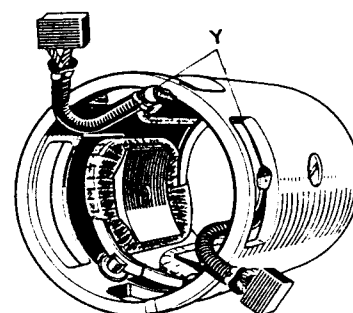
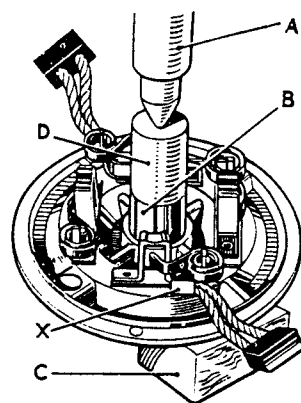

FIG. 12
FIG. 13
exposed on the running faces, they must be replaced. Two of the brushes are connected to tappings (Y) on the field coils (Fig. 12), and the other two are connected to terminal eyelets (X) on the brush boxes (see Fig. 13).
### Bearings (Fig. 13)